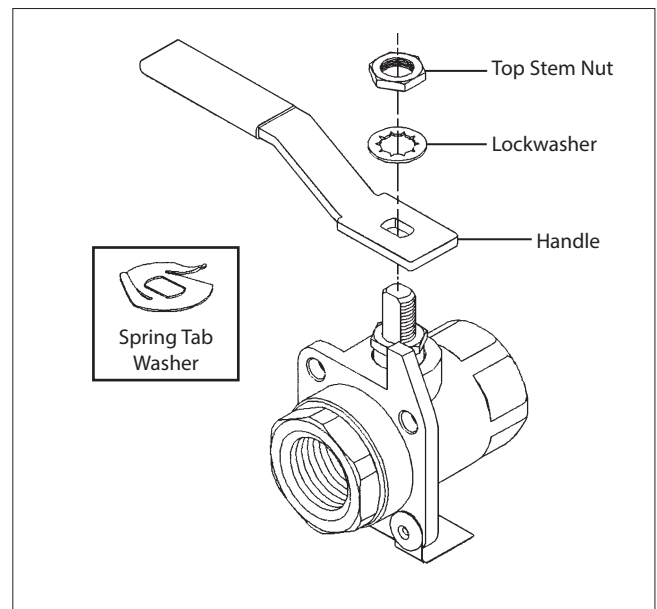

Figure 2.
2. Series 2000 *Eliminator* and *Clincher*, (**Figure 2**): (Double Stem Nut)